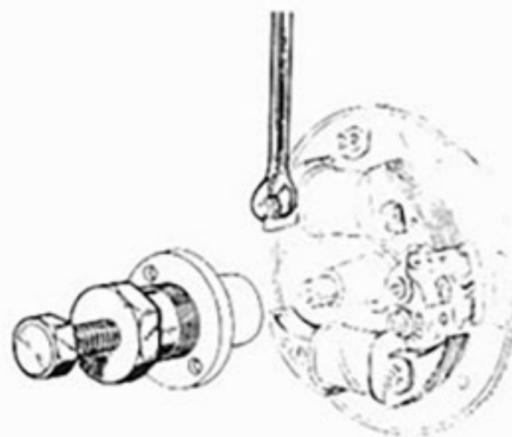

FIGURE 11
- Steadily tighten the central screw of puller and extract cam (Fig. 11).